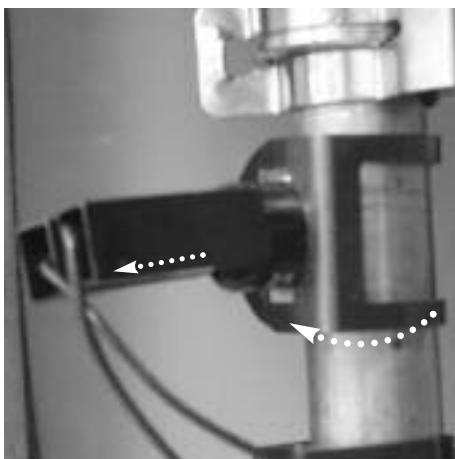

Fig. 100
2. Pull off the thermostat connections. Then remove the thermostat from the pipe by releasing its securing clip (see Fig. 100).